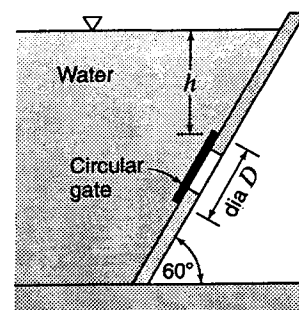

Figure X3.7.7
3.7.7 Find the magnitude and depth of the point of application of the force on the circular gate shown in Fig. X3.7.7 if $h = 5$ ft and $D = 4$ ft dia.